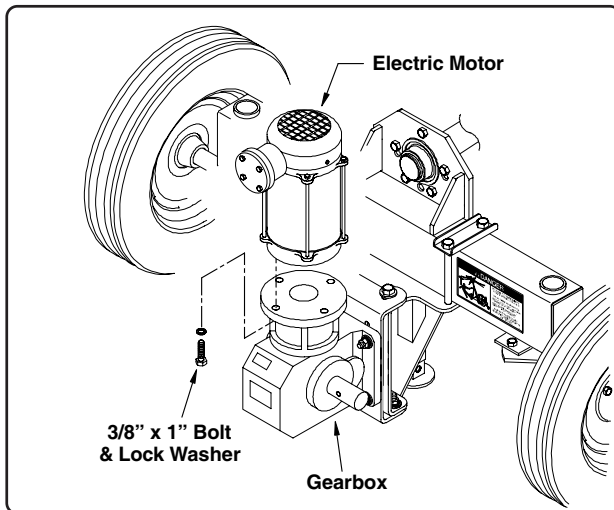

Fig. 5
4. Position the electric motor on top of the gearbox as shown in Fig. 5 (electrical connection opening facing away from the drive frame). Secure the motor to the gearbox using four $3/8" \times 1"$ bolts and lock washers (the bolts will pass up through the gearbox flange and tighten into the bottom of the motor).